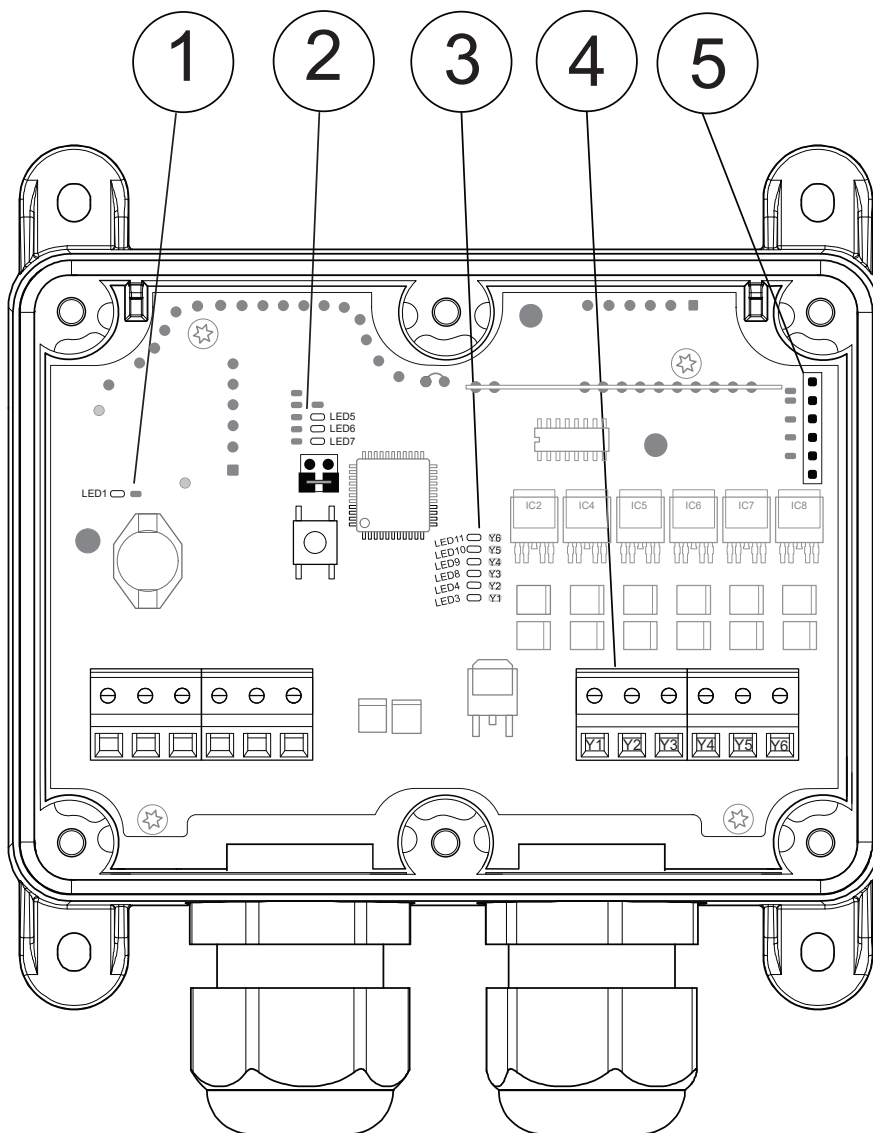

Figure 1. Sesam 800 RXM PLC Receiver indicators and connections
4. Connect the USB-to-Sesam cable to the 6 pin board connector inside the Sesam 800 RXM PLC Receiver, see ⑤ in Figure 1.
7. When correctly connected the Power LED will turn green, ① in Figure 1.
There are 6 programmable outputs on the Sesam 800 RXM PLC receiver. The outputs are called Y1, Y2, Y3, Y4, Y5, Y6 corresponding to the numbering of the outputs, Figure 1.